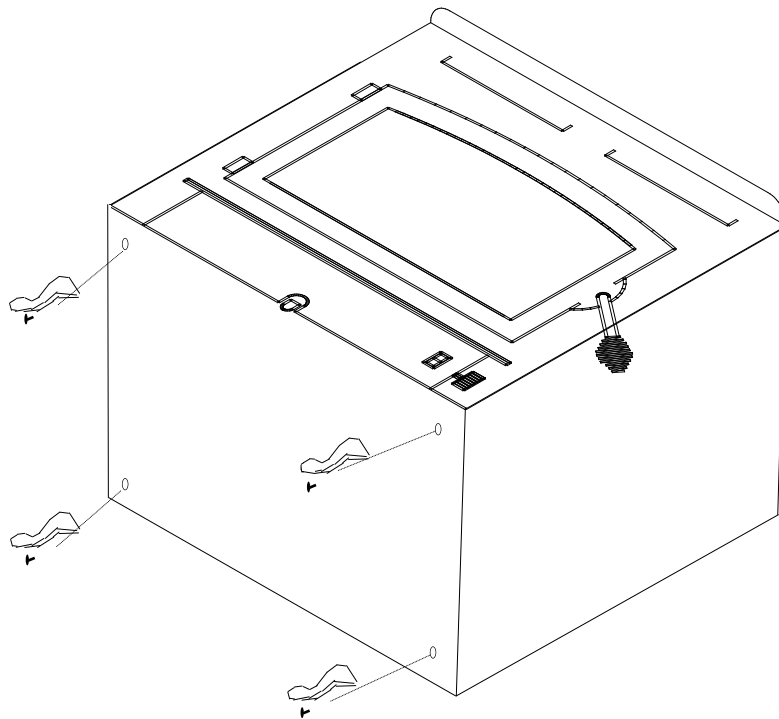

Figure 9
6. Obtain four legs, attach legs to holes in bottom of unit with bolts and washers. (See Figure 9).